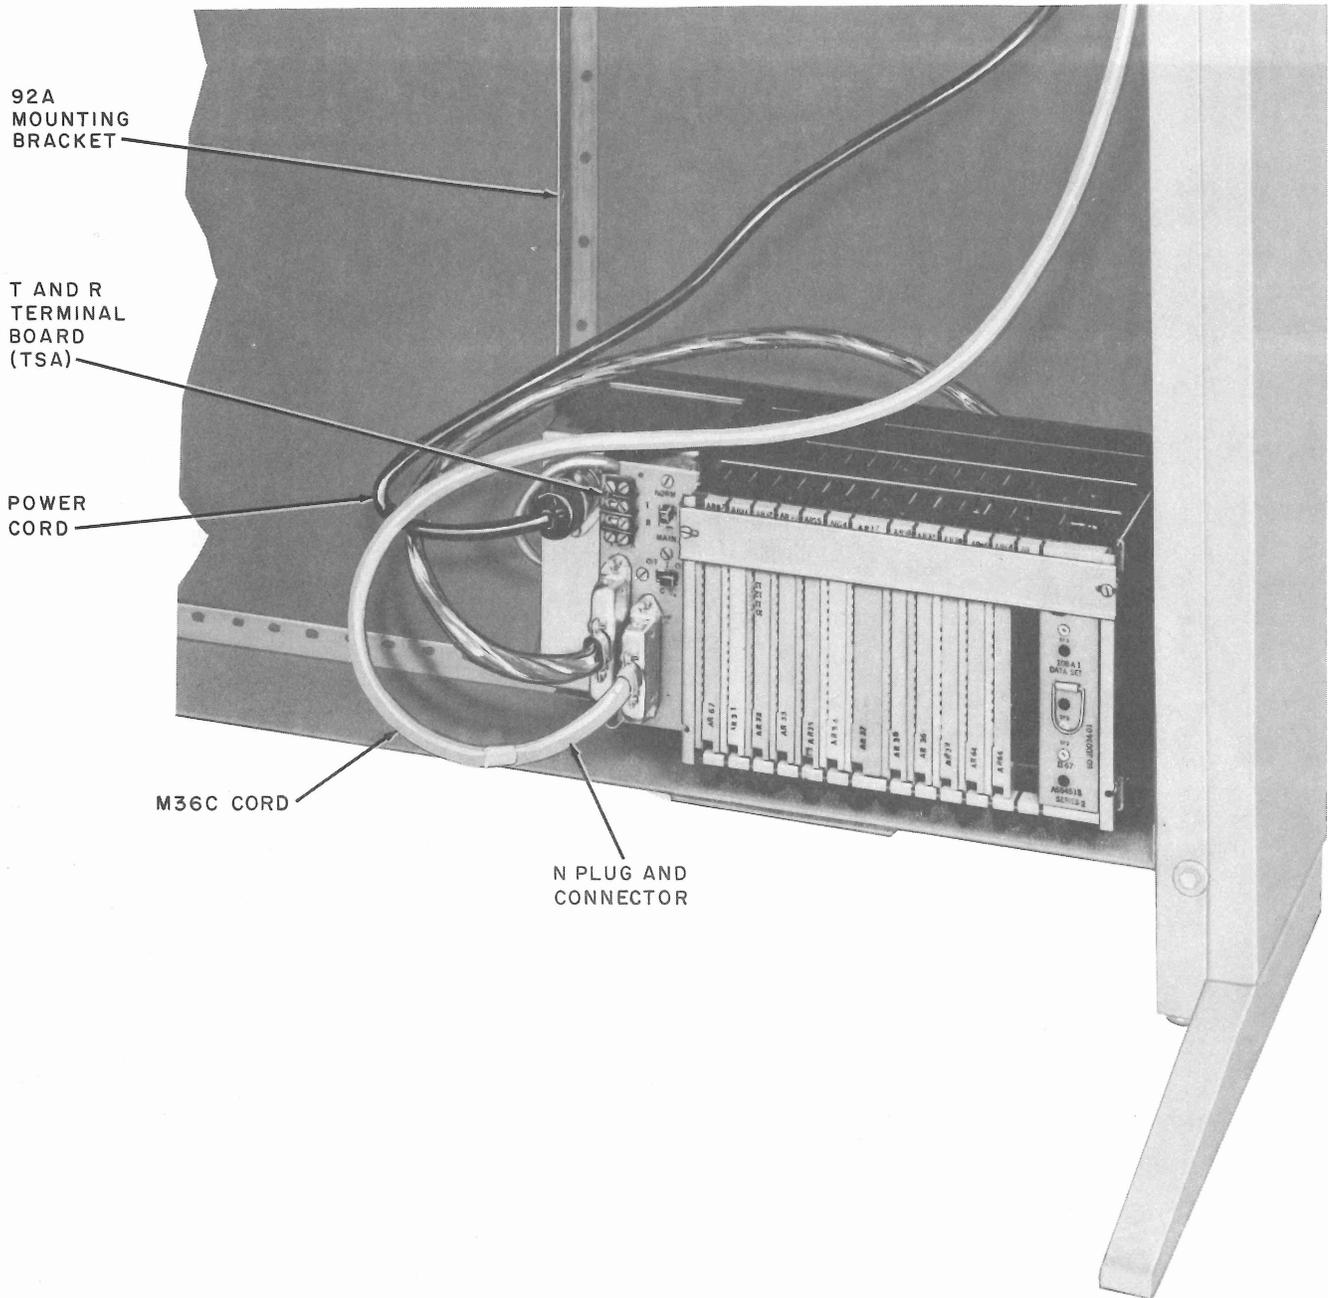

Fig. 14—35-Type TTY Data Station—Data Auxiliary Set 820B-Type
- (11) Disconnect plug on the M36C cord (part of the 804N4 attendant set) from the N connector on the controller (Fig. 14).
- (12) Withdraw the cable from the pedestal of the TTY.
- (13) Remove the mounting bracket, key and lamp assembly, and loudspeaker from the TTY.
- (3) Depress the spring clip underneath the keyboard and lower the front panel to the floor.
- (4) Grasp the front panel by the sides and lift to disengage the hinge pins.
- (5) Remove the front panel.
- (6) Disconnect the M, N, and power plugs from the controller connectors (Fig. 14).
- (7) Loosen the two screws on the controller terminal and remove the Tip (T) and Ring (R) spade lug wiring.